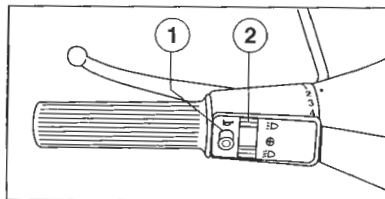

Fig. 20
**Left hand side of the handlebar (fig. 20) :**
**Horn :** Press button '1' (fig. 20).